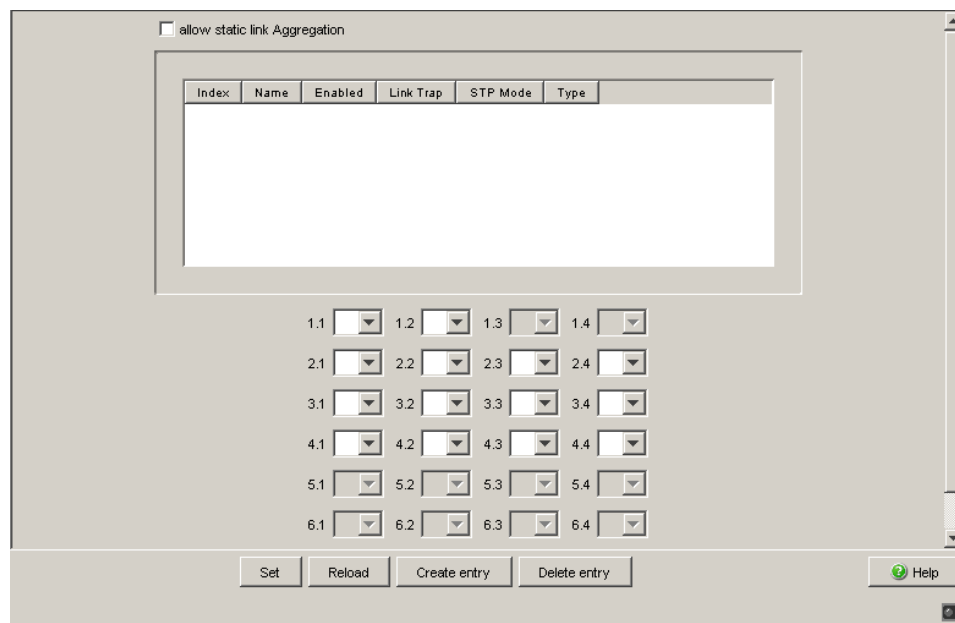

Figure 3: Creating the link aggregation
- Select the Redundancy:Link Aggregation (see figure 3) dialog.